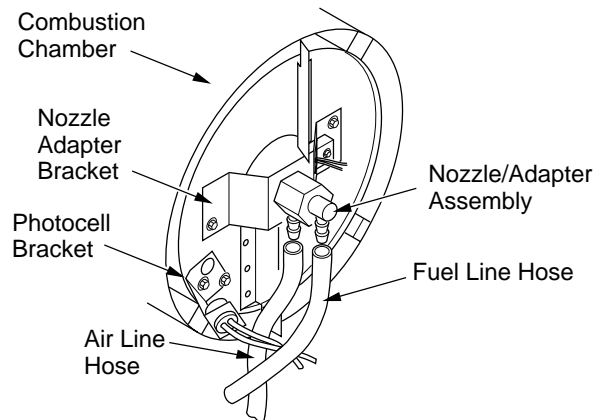
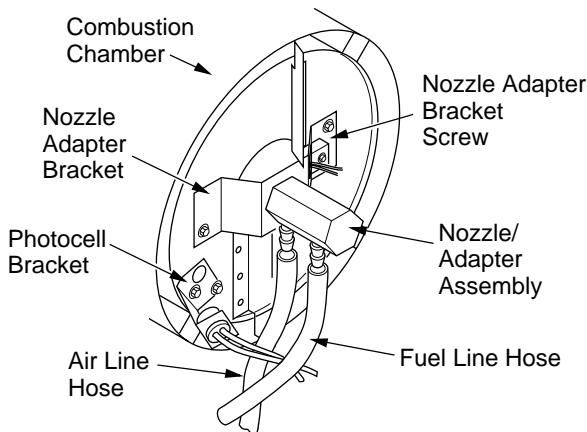
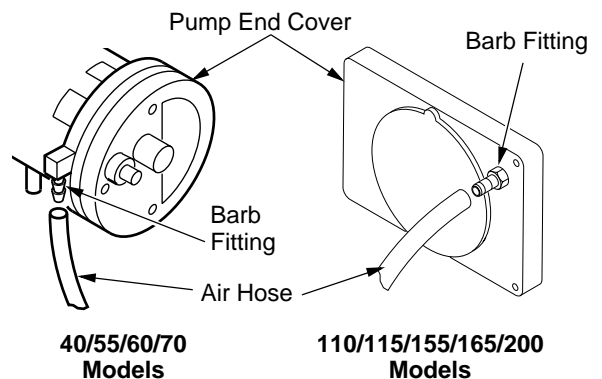

Figure 21 - Removing Air and Fuel Line Hoses (40/55/60/70 Models Only)
Figure 25 - Removing Air and Fuel Line Hoses (200 Model Only)
Figure 27 - Air Hose to Barb Fitting
14. Replace photocell in photocell bracket. Route wires as shown in either (see Figures 21 or 22, page 12 or Figure 25, page 13).
3. Remove fuel and air line hoses from nozzle assembly (see Figure 21 or 22).
3. Remove two nozzle adapter bracket screws (see Figure 25).
4. Inspect fuel and air line hoses for cracks and/or holes. If fuel line hose is damaged, disconnect from nozzle adapter (see Figure 21 or 22, page 12, or Figure 25) and from fuel filter (see *Fuel Filter*, pages 9 and 10). If air line hose is damaged, disconnect from nozzle adapter (see Figure 21 or 22, page 12, or Figure 25) and from barb fitting on pump end cover (see Figure 27).
5. Install new air and/or fuel line. Attach one end of air line hose to barb fitting on pump end cover (see Figure 27) and the other end to nozzle adapter (see Figure 21 or 22, page 12, or Figure 25). Attach one end of fuel line hose to fuel filter (see *Fuel Filter*, pages 9 and 10) and the other end to nozzle adapter (see Figure 21 or 22, page 12, or Figure 25).
Note: Route hoses as shown in see Figure 21 or 22, page 12, or Figure 25, according to model. Hoses are not to touch photocell bracket.